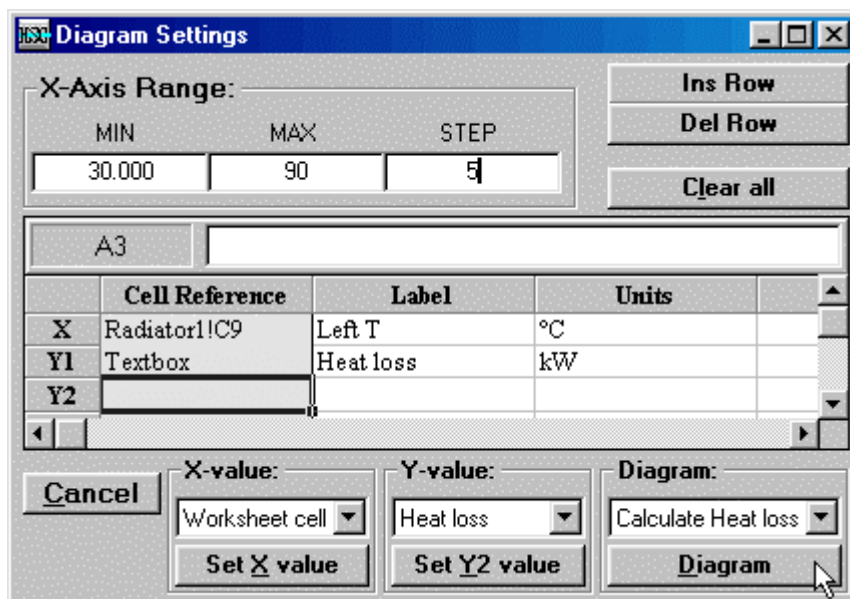

Figure 13: Diagram dialog window. Specifying the diagram.
Instead of only iterating a certain goal value, the **Diagram Dialog** may be used for graphically plotting the whole range. In the example below (Figure 13), the influence of the inside water temperature on the heat flow (in this case the radiator heat output), is shown. Step-by-step the diagram may be achieved in the following manner:
7. Type **90** in the MAX textbox and **5** in the STEP textbox. This means that the inner temperature will range from 30 °C to 90 °C calculated every 5 °C. The dialog box should now look similar to Figure 13.